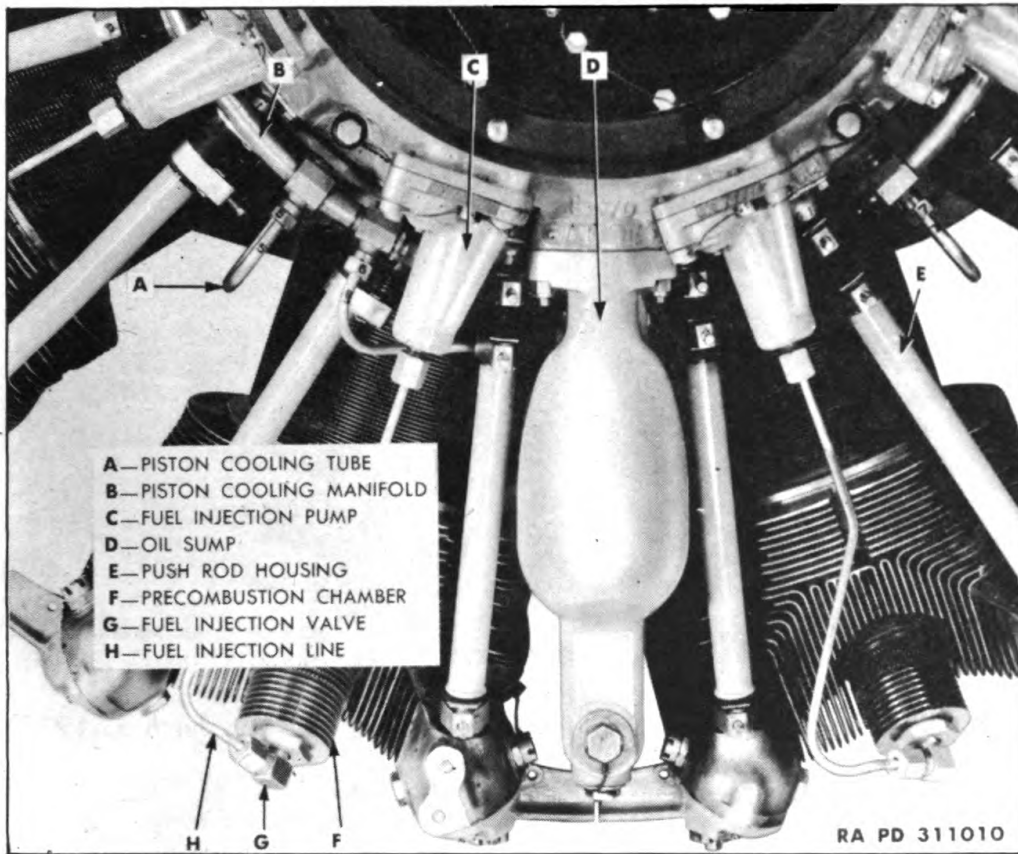

Figure 11 — Engine with Front Support Removed
d. **Remove Fuel Injection Pumps, Valves and Precombustion Chambers** (fig. 11). Fuel injection pumps are located adjacent to each cylinder and are mounted on the crankcase front section. Remove the fuel injection line, and place protector caps (5A79) over the pump and valve openings and plugs (5A1442) in each end of the lines. Remove the hollow head cap screws which hold pump to housing. Lift pump straight up. While holding precombustion chamber with wrench
g. Remove Oil Sump (fig. 11). Remove magnetic drain plug from bottom of sump. Drain oil from sump. Remove screened strainer by unscrewing plug at front of sump. Remove nuts and washers which
h. Remove Piston Cooling Tubes (fig. 11). Remove tubes leading from piston cooling oil manifold to piston cooling nozzles by loosening nuts securing tubes in position. Remove oil tube leading from primary oil filter to inlet fitting of filter. This tube passes between No. 9 and No. 1 cylinders. Remove nuts attaching piston cooling manifold to crankcase front section and lift piston cooling manifold from engine.
k. **Remove Push Rod Housings** (fig. 11). Loosen clamps at each end of each push rod housing. Slide housing radially inward toward crankcase front section. Lift rocker box end of push rod housing up and remove housing by pulling outward away from engine. Remove hoses and clamps. Remove loose fitting valve tappet ball sockets and springs from all of the valve tappets. Turn crankshaft, if necessary, to push sockets within reach.